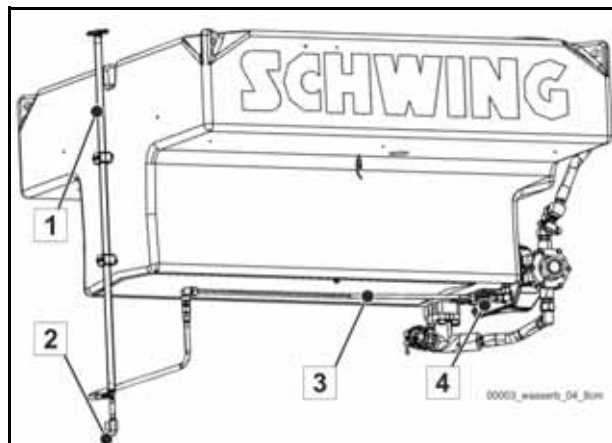

Fig. 190
Check the water level of the water case on the water level gauge (2) (**Fig. 190**) to see whether there is sufficient water.
Caption (Fig. 190)
- Open the ball valves (10, 17) (**Fig. 191**) and (4) (**Fig. 190**) to drain the water pipes and water pumps.